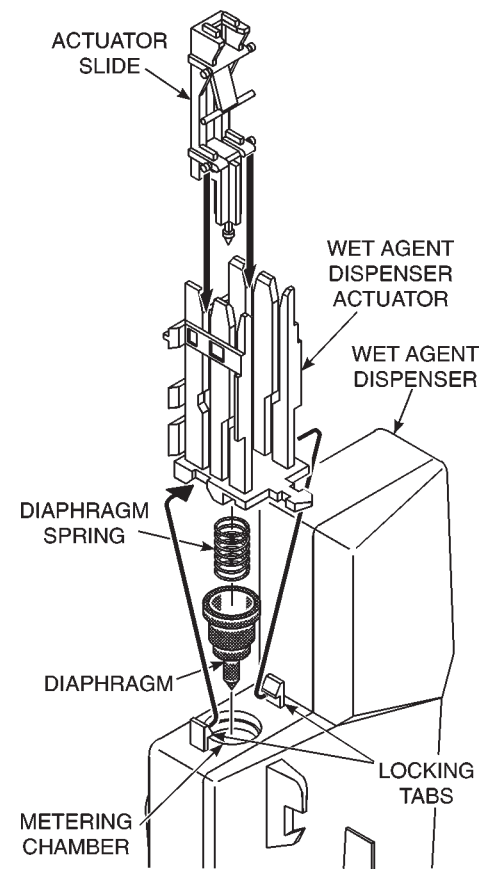

Fig. 3-13
6. Remove wet agent dispenser actuator by spreading the two (2) locking tabs. (Fig. 3-13)
4. Insert the diaphragm and diaphragm spring into the wet agent dispenser. Seat the diaphragm flush with the surface of the dispenser. (*Fig. 3-13*)